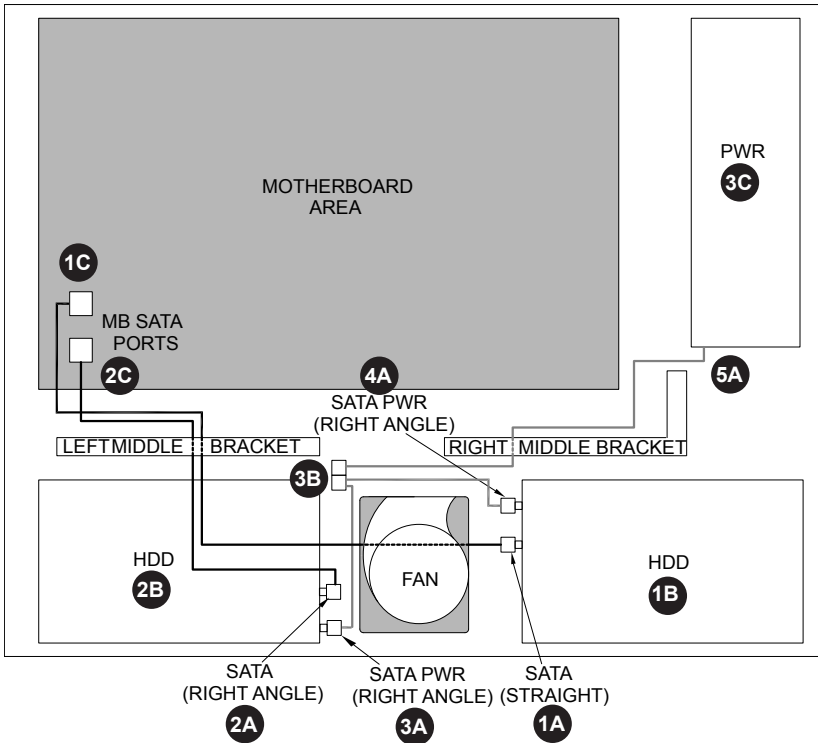
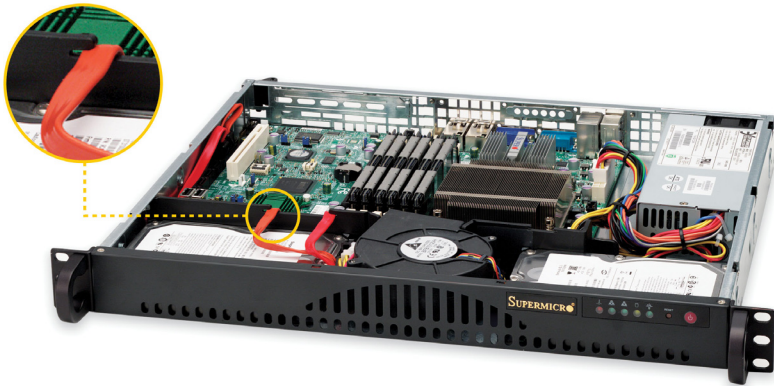

Figure A-1: Chassis Cable Routing Diagram (SC512L-200/260)
Figure A-2: Chassis Cable Routing
1. Check the cable routing by following out each cable in the previous steps and comparing them to the diagram in Figure A-1, and the photograph in Figure A-2.